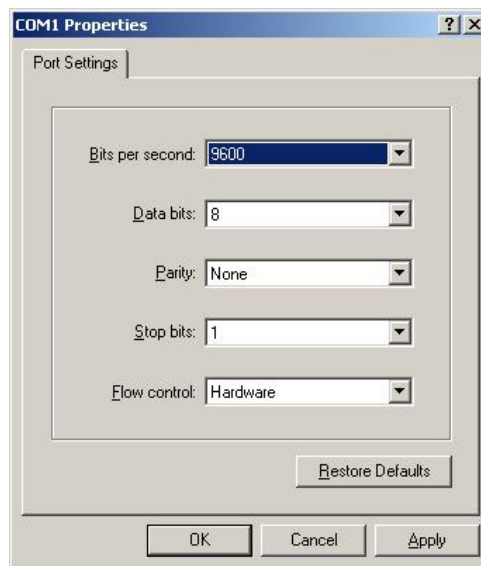

Figure 2-62: HyperTerminal COM Port Settings
6. Under Port Settings, select the values for each setting as shown in Figure 2-62.